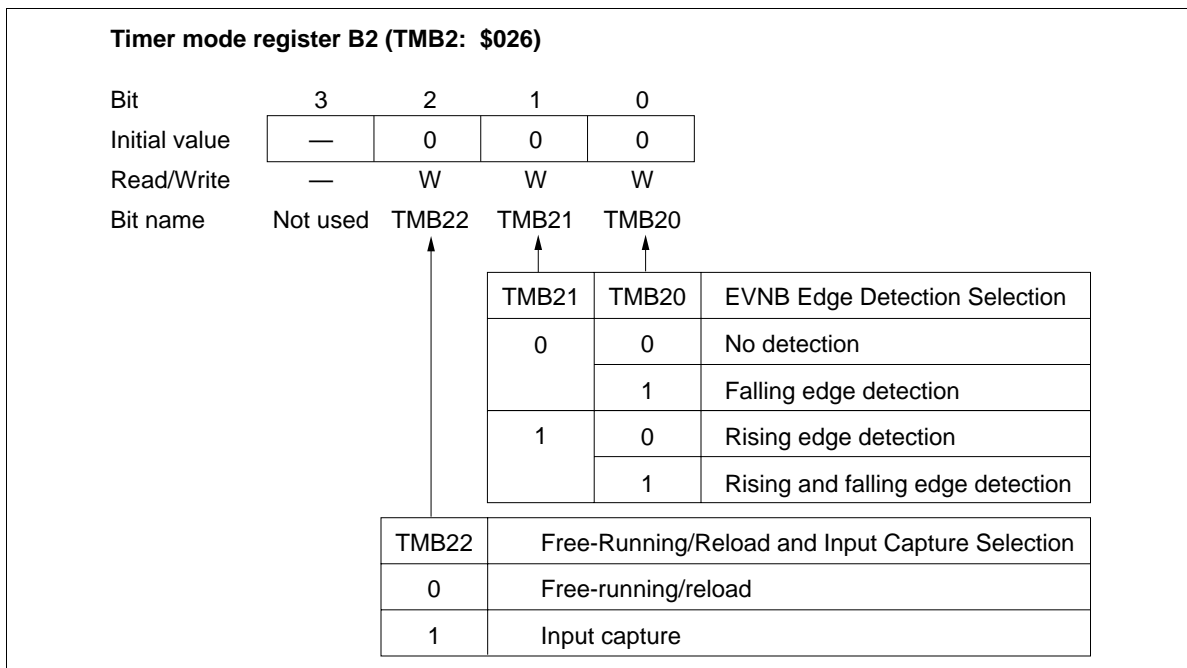

Figure 41 Timer Mode Register B2 (TMB2)
- Timer mode register B2 (TMB2: \$026): Three-bit write-only register that selects the detection edge of signals input to pin EVNB and input capture operation as shown in figure 41. It is reset to \$0 by MCU reset.